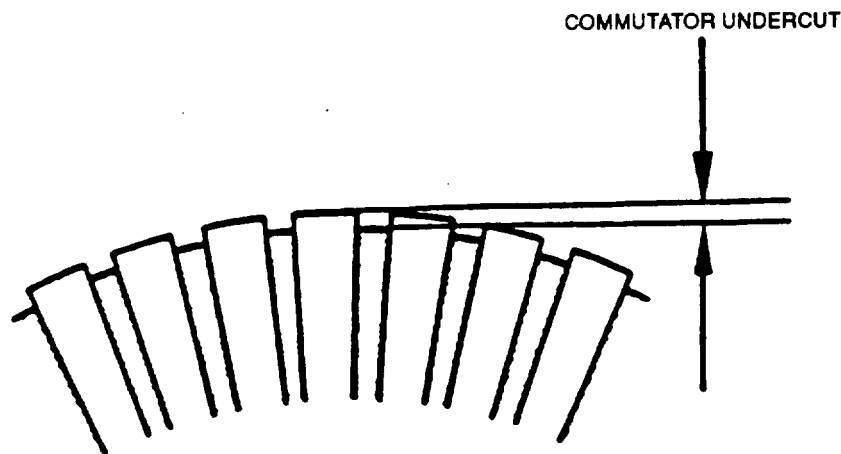

FIGURE 3-28. Measuring Segment Mica Depth
- c. Measure commutator segment mica depth as shown in FIGURE 3-28. If depth is less than 0.0079 inch (0.2 mm), undercut the mica.